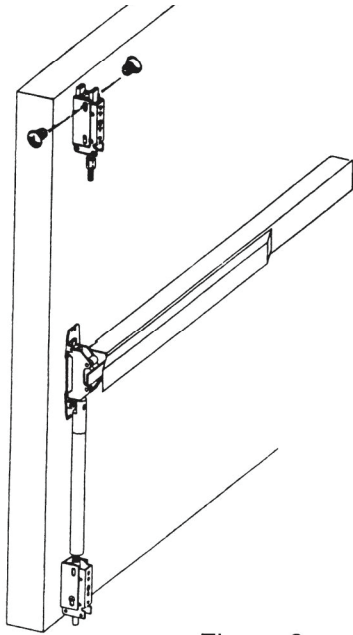

Figure 8
- a. Mount top latch assembly into mounting bracket. (See Figure 8.)